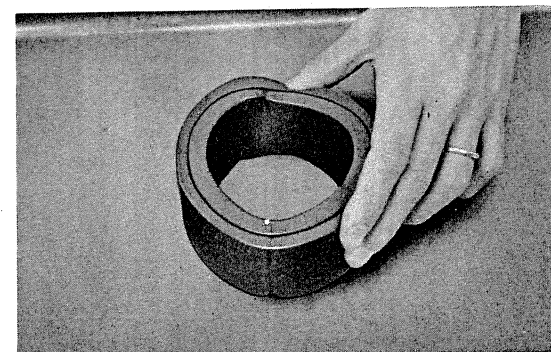

Fig. 147 Air cleaner element cleaning
- 6) Clean the air cleaner element by blowing off dust with compressed air or wash in soap water. (Fig. 147)